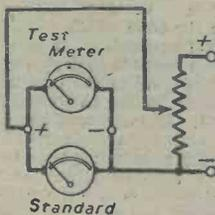

Fig. 2.—Checking against a standard meter.
**Fig. 2.**—Skeleton circuit of a paraphase amplifier of the type suggested for fidelity reproduction. High-quality amplifiers were described in the January, February and March, 1944, issues of PRACTICAL WIRELESS. A paraphase amplifier with negative feed-back was described in the last-mentioned issue.
series resistors for a D.C. voltmeter of this type is to divide the full-scale current, in milliamperes, into 1,000 so as to arrive at the ohms-per-volt (o.p.v.). For example, assume the FSD to be 5 milliamperes, but that required to be 200 volts. Therefore,  $1,000 \div 5 = 200$ , that is, 200 o.p.v. This multiplied by the required FSD is  $200 \times 200 = 40,000$ , the value of the series resistance necessary in ohms to increase the FSD to the 200 volts required. These series resistors are, in general, wire-wound, enabling some measure of calibration to be achieved by increasing or decreasing the number of the wound turns of wire. Final checking is done by comparison with readings from a standard meter, the circuit arrangement being illustrated by Fig. 2. The resistance value of the potentiometer can be 500 ohms for a 20-volt input and 50,000 ohms for a 200-volt input, the meters under check being assumed to have FSD ranges within these limits.